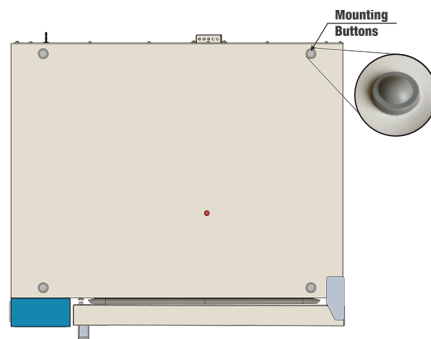
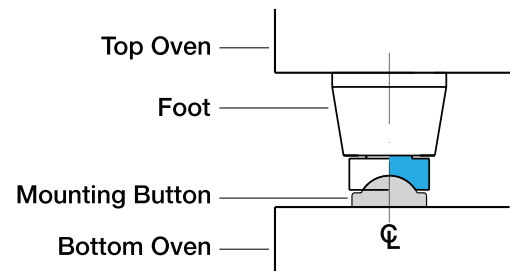

Figure 3.7. Stacking mounting buttons
Figure 3.8. Mounting button and oven foot cross-section.
Each oven has four (4) mounting buttons on its top as shown in Figure 3.7. The convex head of the button is designed to fit into the concave portion of the oven's feet, see Figures 3.8 and 3.9.